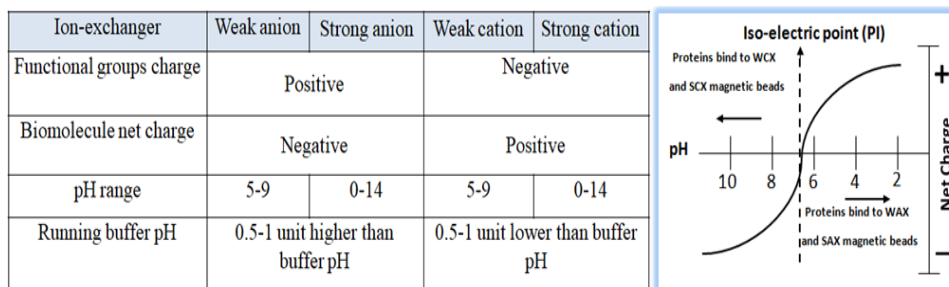

Fig.1
- Based on the protein's pI, empirically calculate the appropriate buffer (pH and salt concentration) for purifying and eluting the protein of interest (Fig.1). In a buffered solution above the protein's pI, the protein becomes negatively charged (deprotonated) and binds to the positively charged functional groups of an anion exchange resin. To choose the correct buffer for a selected pH, the following is a general rule for selecting a buffer pH: